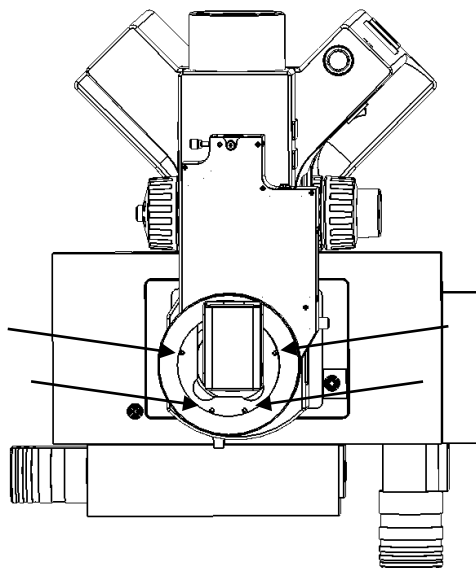

Figure 24 Top view of the microscope showing the screws used to adjust the position of the camera module
10. Loosen the 4 screws on the top plate of the Raman module until the camera is just free to move (Figure 24).